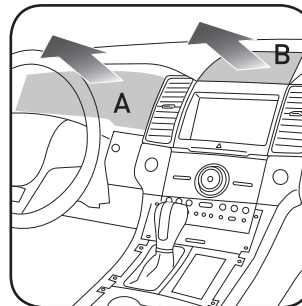

Fig. 1.3
6. Unclip and remove the gauge cluster trim panel. (Fig. 1.3-A)
7. Unclip and remove the trim panel above the radio control panel. (Fig. 1.3-B)